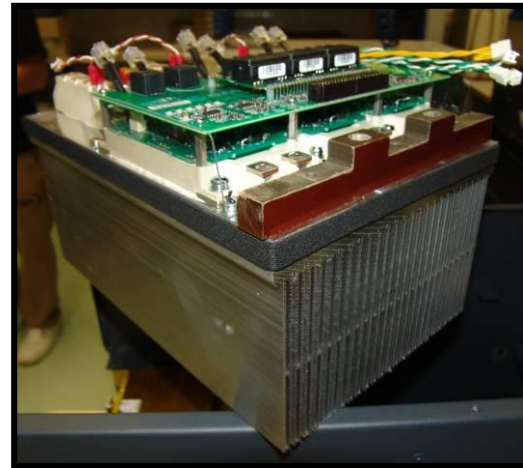

Figure 7.4.31
- 2) Take the thyristors and the lower gate drive board and spread the thermal-conductor paste on the bottom (see figure 7.4.31).